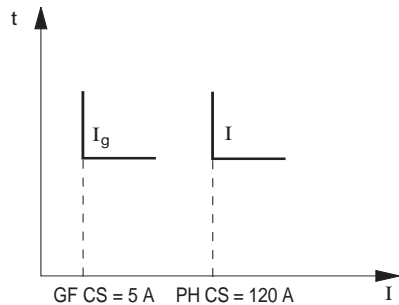

Figure 70: Pickup too low
1. pickup too low: < 30% of "PH CT" (figure 70)